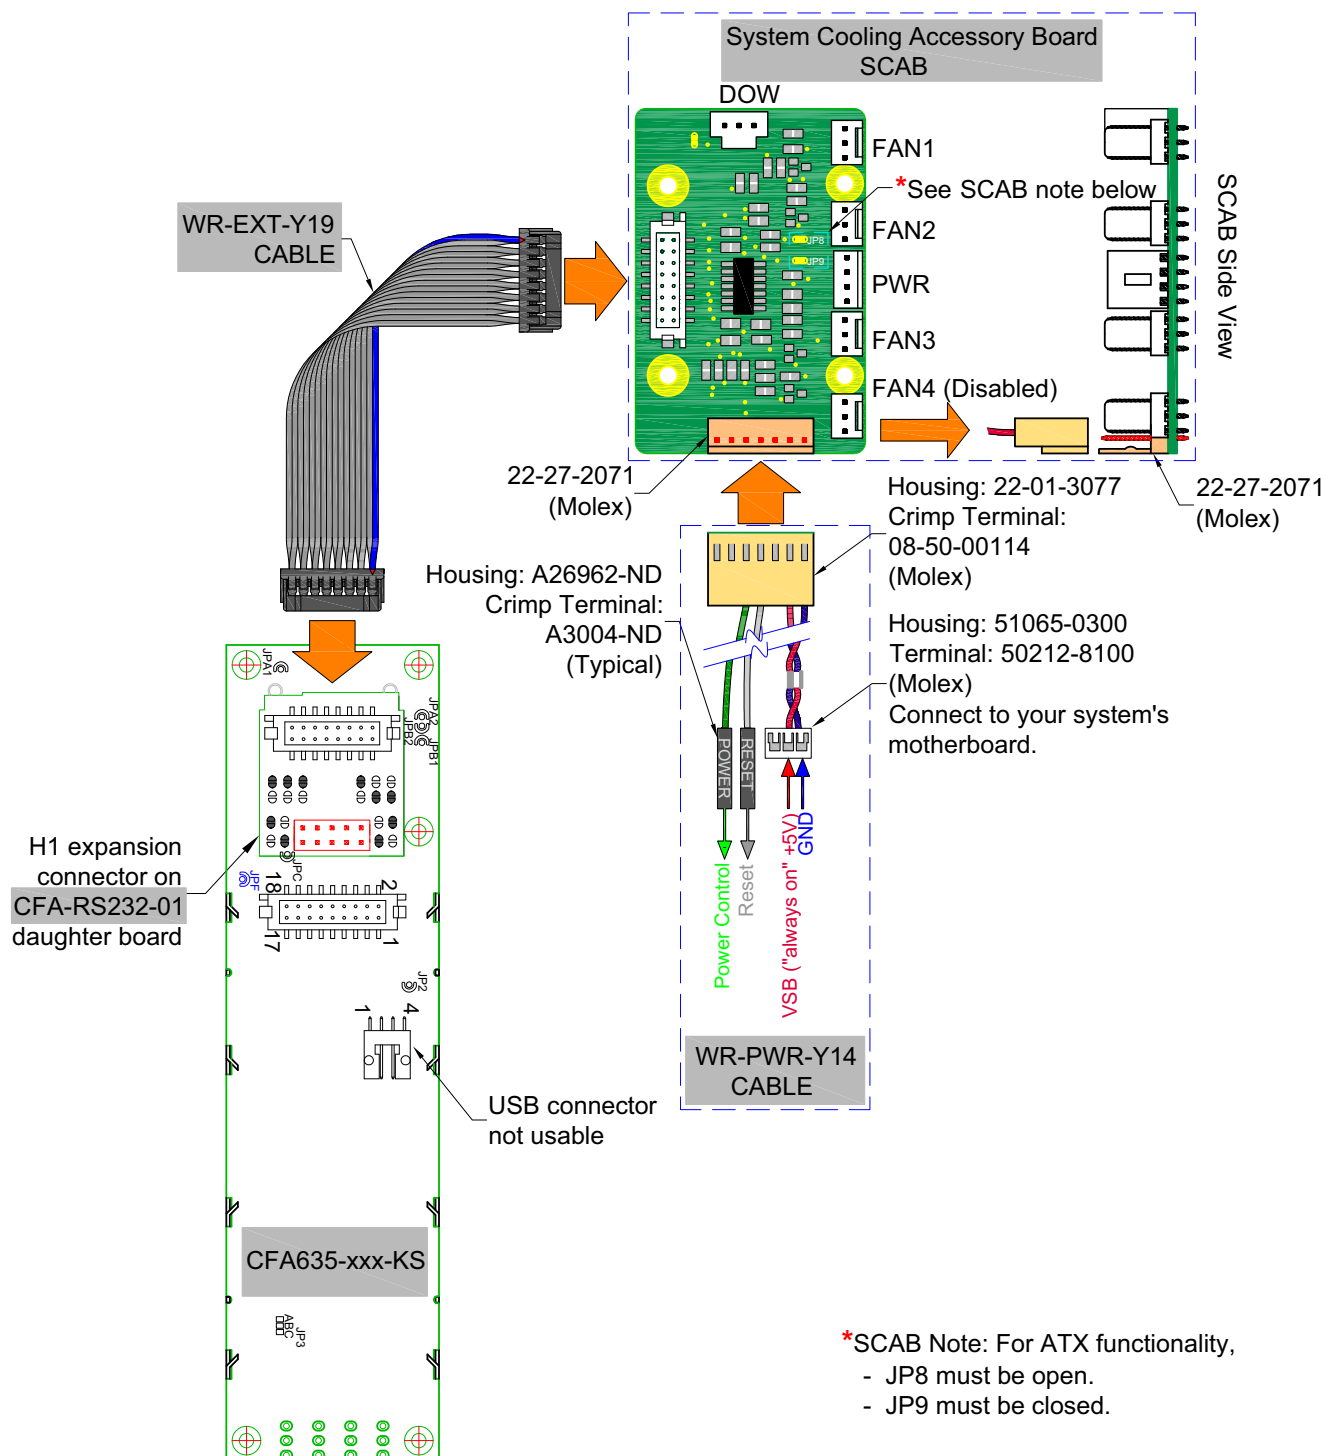

Figure 7. ATX Power Supply and Control Connections Using CrystalFontz SCAB
*SCAB's JP8 must be open and JP9 must be closed. For quick reference of location, see <a href="#">Figure 7. on Pg. 27</a> . For details, see the SCAB Data Sheet on <a href="http://www.crystalfontz.com/product/SCAB.html#docs">www.crystalfontz.com/product/SCAB.html#docs</a> .